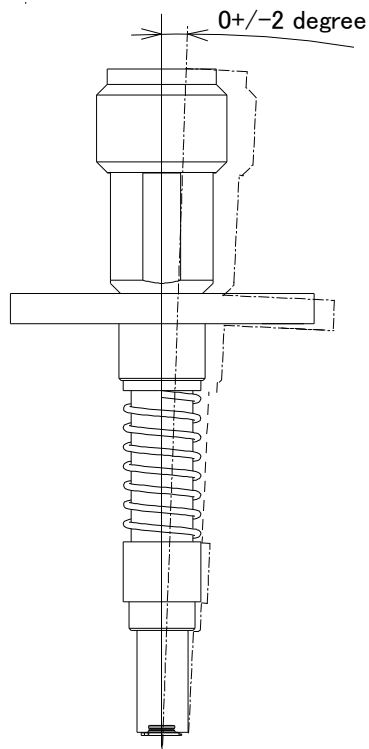

Figure.4 Probe Shape Operation Manual for Auto Measurement probe (MM121537)
3.3 The slant angle tolerance of probe against JSC-Male. (Figure 4)